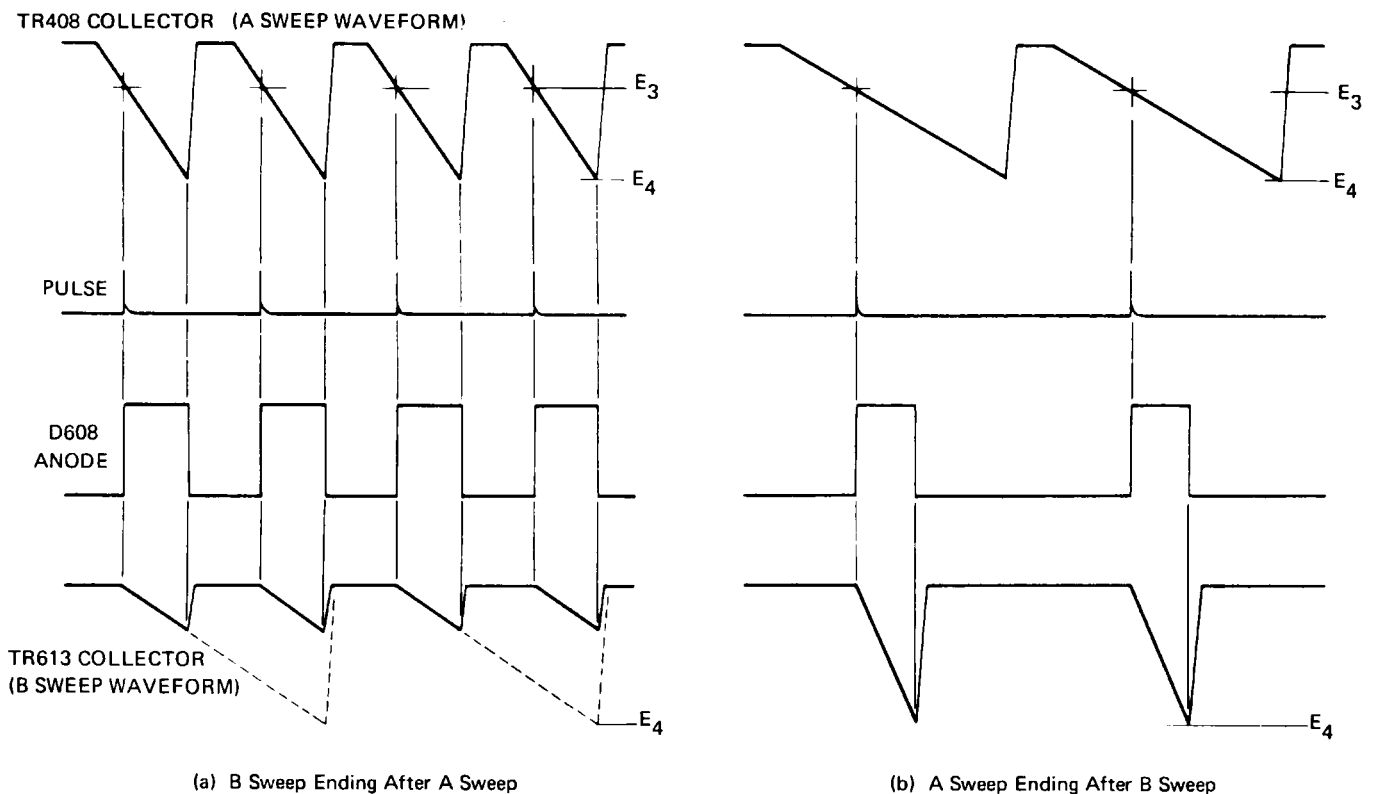

Figure 3-25 Waveforms, DLY'D (B) Sweep Mode
The operation in the DLY'D (B) MODE is substantially the same as that of the A INTEN BY B MODE. The following explanations are for a case in which the DLY'D (B) MODE switch is set at the AUTO position; non-triggered delayed sweep. The DLY'D (B) sweep is of two types differentiated by the relative time positions of the ends of the A and B sweeps, i.e., when the end of the B sweep lags behind the end of the A sweep and vice versa. See Figure 3-25.
First, consider the case in which the end of the B sweep lags behind the end of the A sweep. Suppose sweep A begins and then sweep B is triggered by the delay pulse. The action up to the moment sweep B ends upon completion of sweep A is identical to the case in which the end of sweep B lags behind the end of sweep A in the A INTEN BY B MODE. In the DLY'D (B) MODE, as shown in Figure 3-25, the B sawtooth which is terminated at the completion of sweep A (a sawtooth whose amplitude is smaller than that of  $E_4$  which is required to display a full trace on the viewing area of the CRT) is fed to the horizontal preamplifier, and since the sweep is controlled by this waveform, the length of a trace becomes shorter as its amplitude decreases. The slower the B sweep becomes as compared to the A sweep, the shorter the length of the trace gets. (However, since an expanded display of the input signal by the DLY'D (B) MODE cannot be
Next, consider a case in which the end of the B sweep leads the end of A sweep. As shown in Figure 3-25, since the B Sweep Waveform is not terminated by the A sweep even if its slope is steep, the voltage is always maintained at a level of  $E_4$  and therefore the length of a trace will not be shortened.